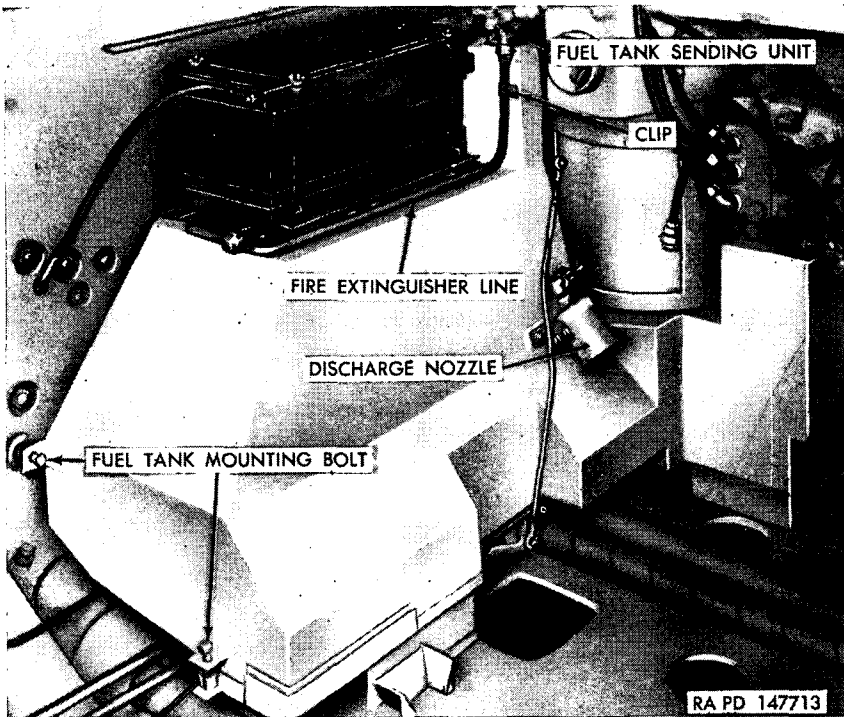

Figure 153. Left fuel tank—installed view.
(2) *Remove left fuel tank* (fig. 153).
- (e) Remove three fuel tank mounting bolts (fig. 153), locking wires, washers, and springs. Two mounting bolts are on the rear of the fuel tank. Raise the filler cover to gain access to the front mounting bolt.
- (1) *General.* If fuel tanks are to be replaced, be certain to remove any brackets, plates, etc, attached to the replaced fuel tank and install them on the new tank.
- (2) *Install left fuel tank* (fig. 153).